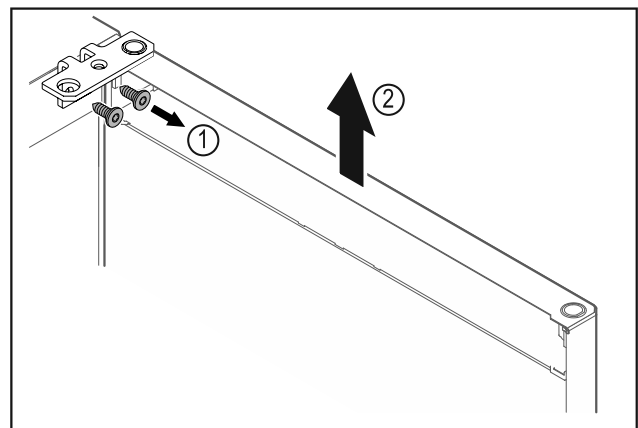

Fig. 9
► Unscrew the hinge Fig. 9 (1).
► Lift the door with the hinge straight up by Fig. 9 (2) roughly 200 mm and take it off.